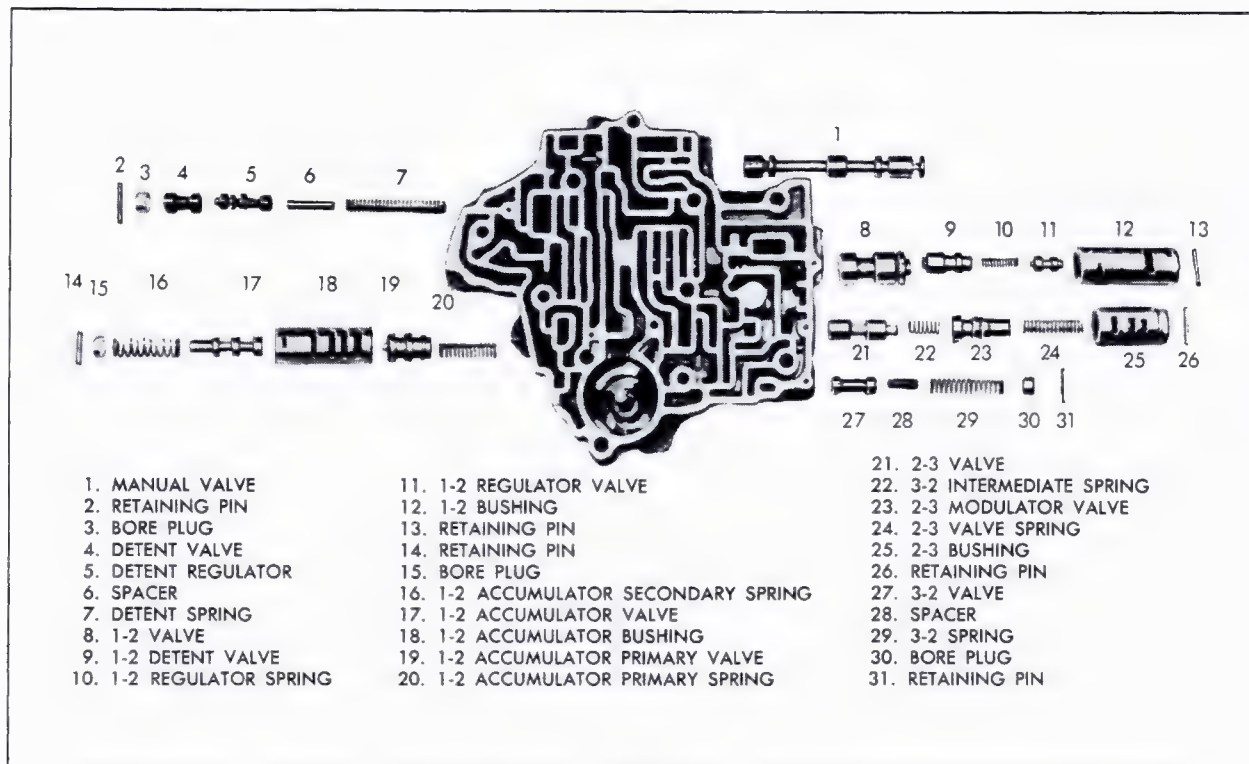

Fig. 7-64 Control Valve Assembly Disassembled
h. Control Valve Assembly (Fig. 7-64)